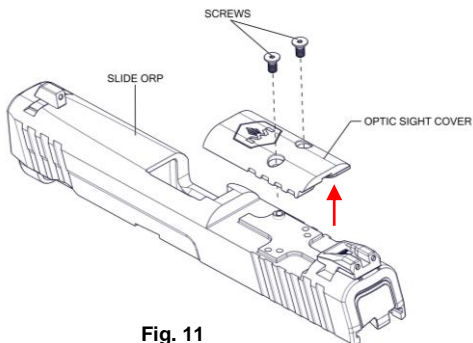

Fig. 11
1. Unscrew the tightening screws on the ORP Slide to remove the Optic Sight Cover (Fig.11).